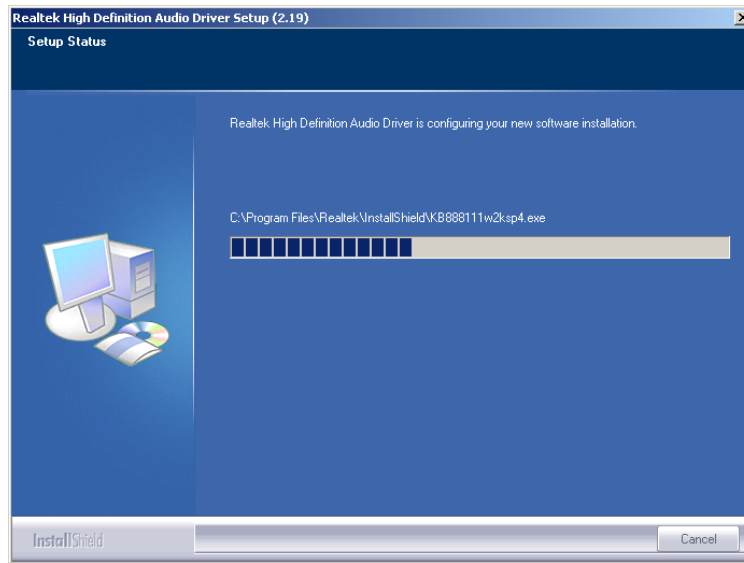

Figure 6-22: Audio Driver Software Configuration
Step 8: InstallShield starts to install the new software as shown in Figure 6-22.